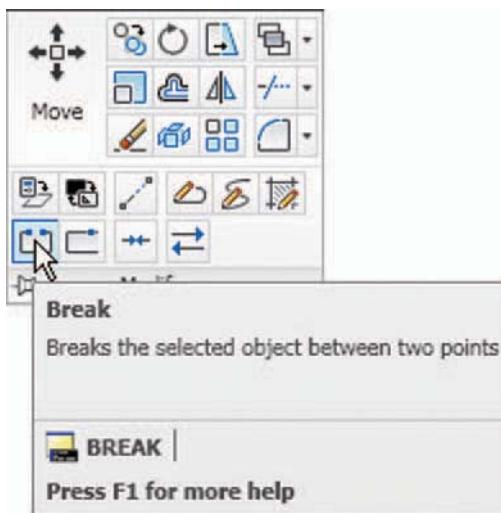

Fig. 5.35 The **Break** tool icon from the **Home/Modify** panel
2. Call **Break** – either *click* on its tool icon in the **Home/Modify** panel (Fig. 5.35), *pick* its tool icon in the **Modify** toolbar, *click* **Break** in the **Modify** drop-down menu, or *enter br* or **break** at the command line, which shows: